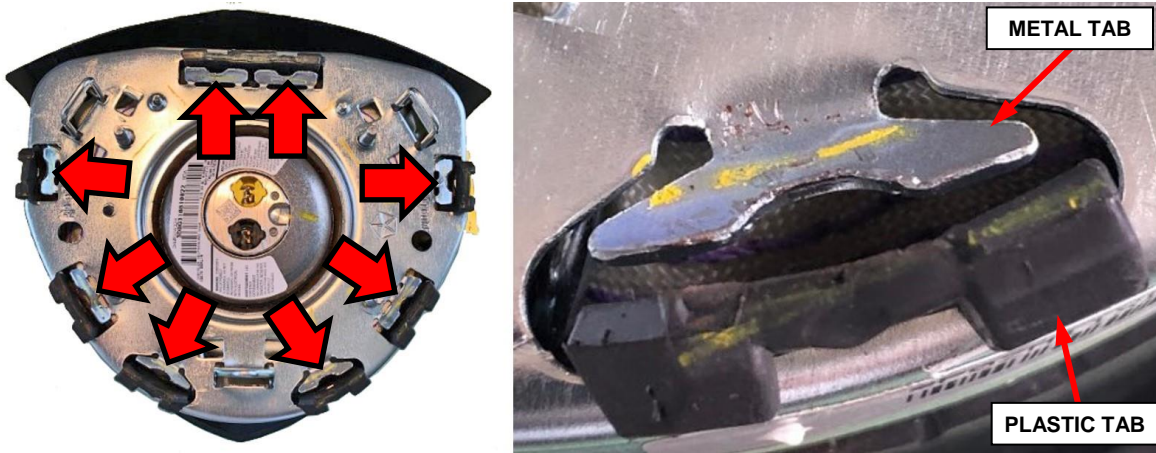

Figure 20 – DAB Cover Installation
3. Install backing plate working from bottom to top, inserting the plastic cover tabs into their respective slots in the backing plate. Make sure the cover tabs are engaged with the metal backing plate divots (Figure 20).
4. Bend the eight metal backing plate tabs down using the wide-tipped long-nose pliers (Figures 20 and 21).